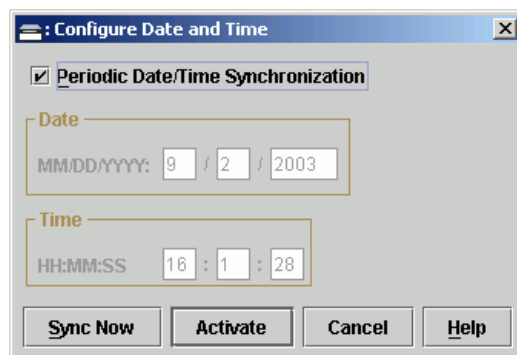

Figure 2-82 Configure Date and Time Dialog Box
1. At the *Hardware View*, select *Date/Time* from the *Configure* menu. The *Configure Date and Time* dialog box displays (Figure 2-82).